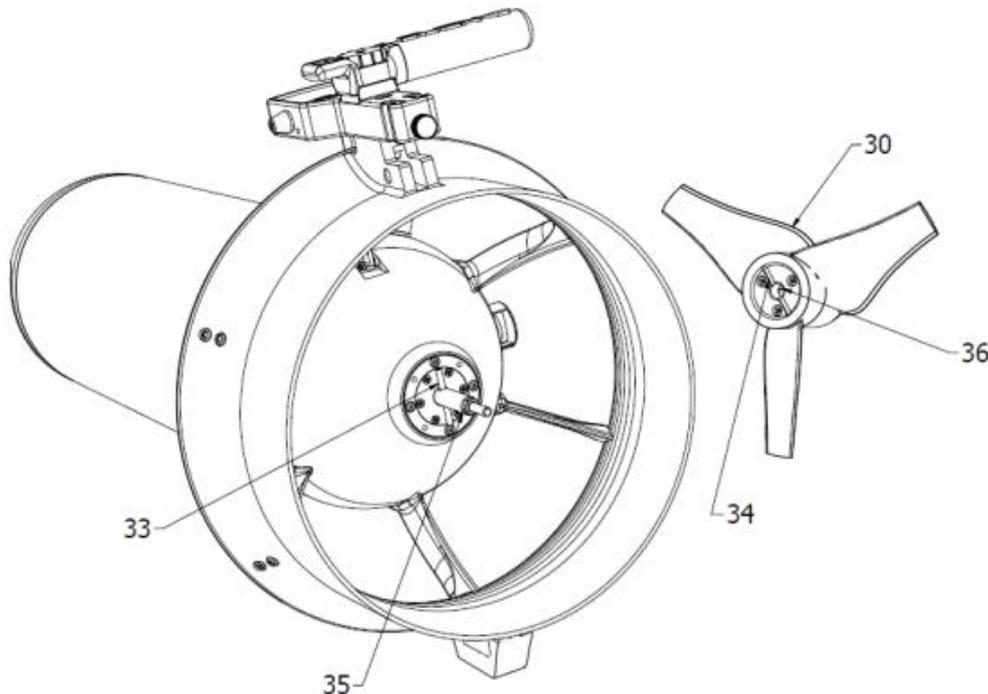

Fig.10
Insert the motor shaft of the SCOOTER (35 - Fig.10) in the hole of the propeller (36), turn the propeller (clockwise) until the pin (33) matches the seat (34) propeller. When you hear a click, the propeller will stop turning. Continue by turning (CLOCKWISE) the switch (6) WITH THE FINGER ONLY, WITHOUT FORCING.